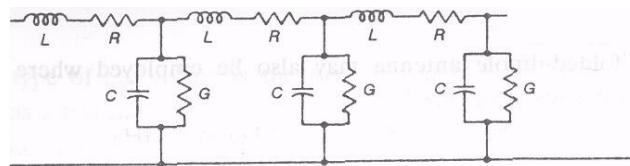

Figure 17-2. General Equivalent Circuit of Transmission Line.
Since each conductor has a certain length and diameter, it must have resistance and inductance; since there are two wires close to each other, there must be capacitance between them. Finally, the wires are separated by a medium called the *dielectric*, which cannot be perfect in its insulation; the current leakage through it can be represented by a shunt conductance. The resulting equivalent circuit is as shown in Figure 17-2.
It is to be noted that the quantities L , R , C , and G , shown in Figures 17-2 and 17-3, are all measured per unit length, e.g., per meter, because they occur continuously along the line.
5. As we understand from Figure 17-2,